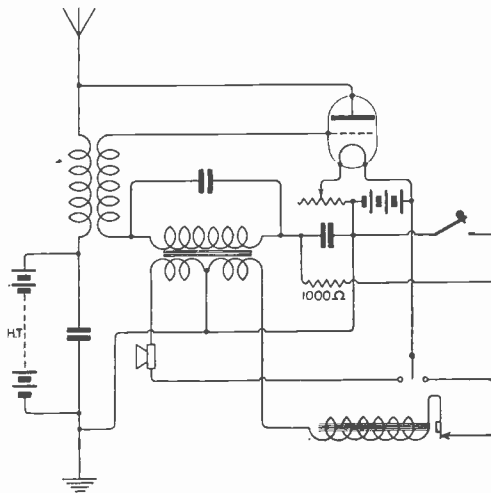

Fig. 2.
(1) See Fig. 2, page 811, March 18th issue, and Fig. 4 of the same issue.
(2) See diagram. Fig. 2.
(3) With a 0.0005 mfd. condenser across the secondary both circuits will tune to 3,500 metres on a 100' single wire aerial.